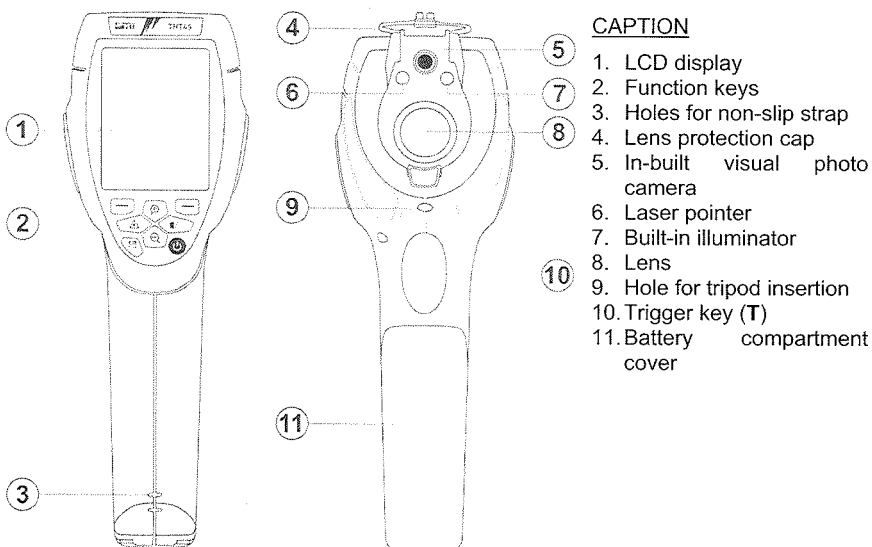

Fig. 1: Description of the instrument's front and backside
Pressing and hold the key allows activating/deactivating the internal illuminator (see Fig. 1 – Part 6). The same key is also used for the selection of system parameters.
Pressing and hold the key allows activating/deactivating the laser pointer (see Fig. 1 – Part 7). The same key is also used for the selection of system parameters.
2. Lift the battery compartment cover (see Fig. 1 – part 11)